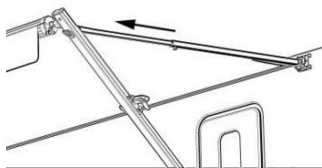

Figure D7
b. Adjust the tension rod to tension the fabric. The awning is fully open. (Figure D7)